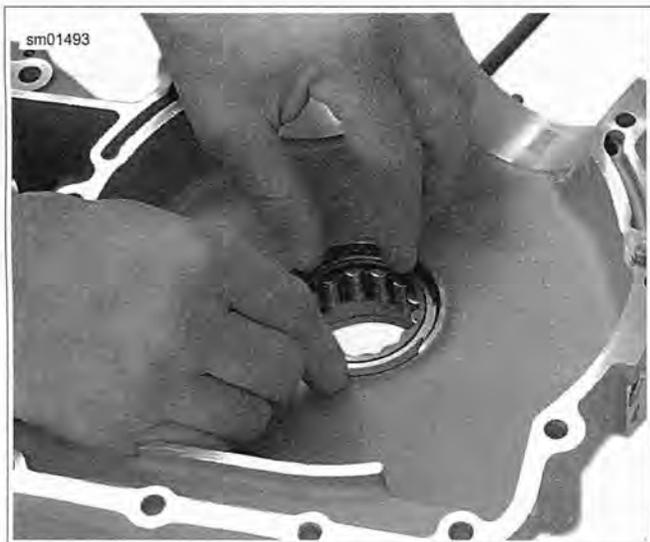

Figure 3-120. Removing Left Main Bearing Retaining Ring
6. See Figure 3-120. Remove left main bearing retaining ring from the inside of the left crankcase.